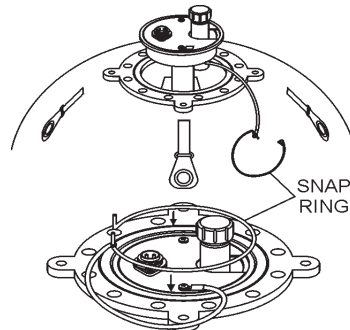

Figure 22. Installing the Lamp Fixture
3. Install the lamp fixture into the balloon. Do not force the bulb against the PVC material as this may damage the bulb. Set the snap ring (Figure 22) into the o-ring groove to ensure a complete seal of the balloon.